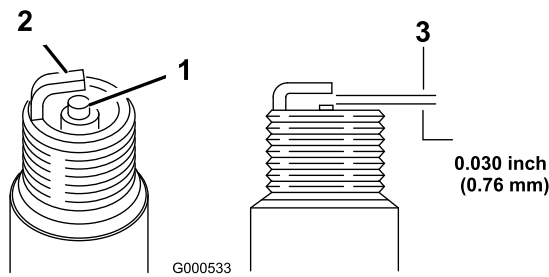

Figure 29
- Set the gap on the plug to 0.030 inch (0.76 mm) (Figure 29).